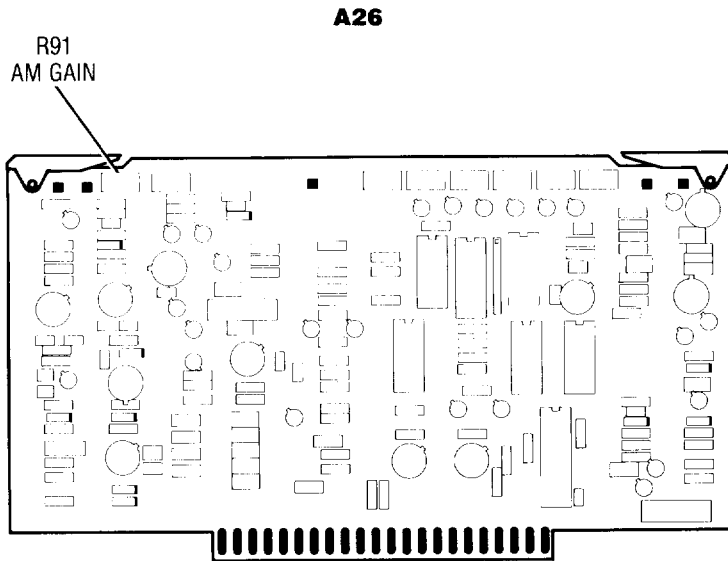

Figure 5-51. A26 Linear Modulator Component Location Diagram
32. Adjust the power supply for +0.3 Vdc. The power meter indication should be between 2.18 to 2.38 dB. If the indication is not in this range, adjust A26R91 (AM GAIN, Figure 5-51) for a power meter indication within the given range.